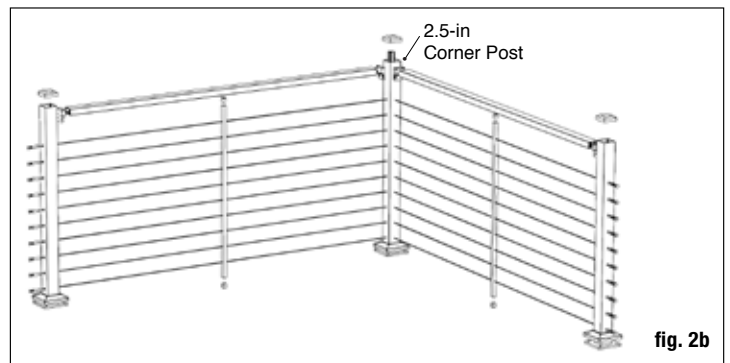
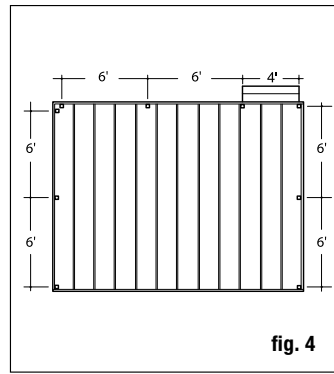

fig. 2b
fig. 4
Step 1 Determine the layout and number of railing posts needed for your deck. Post spacing is 6' or 8' on-center. Cable posts are available pre-drilled for end, line and corner posts. Cable is available in lengths of 5', 10', 15', 20', 25', 30', 40' and 50'. Many layout options are possible. One tip is to start with the most visible run. It's the one on which you want the least interference with the view, so you can start from there and build around it. Corner applications: When taking cable through a corner, do not bend the cable past 45° at any time. When turning 90°, use a corner post (fig. 2b) or make a 2-step turn using a double corner post configuration (fig. 4), or stop the cable run and start a new run. Example: A 12' x 16' deck attached to a building with a 4' access opening on one side will require a total of nine posts (eight if using corner post).